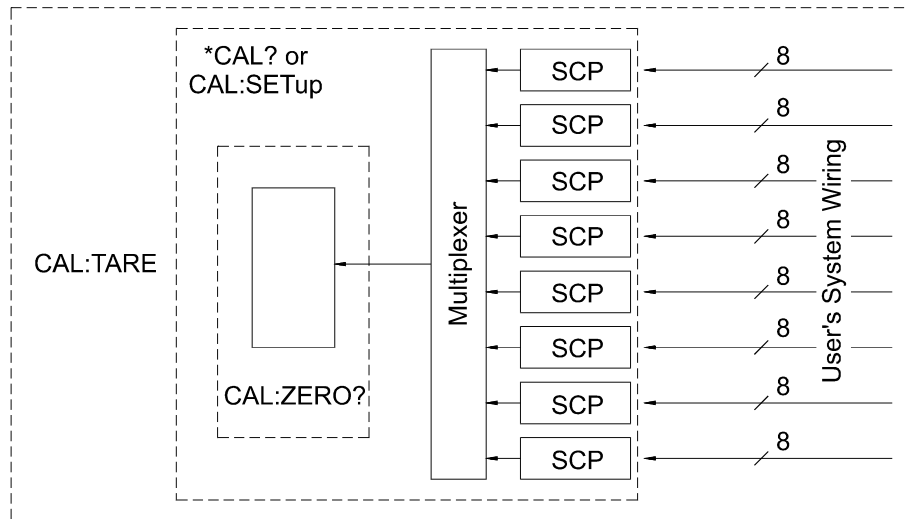

Figure 7-3. Levels of Working Calibration
2. "Working Calibration", of which there are three levels (see Figure 7-3):